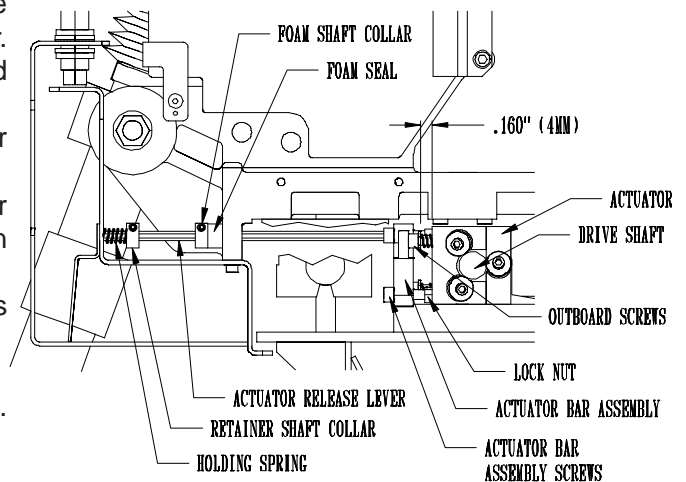
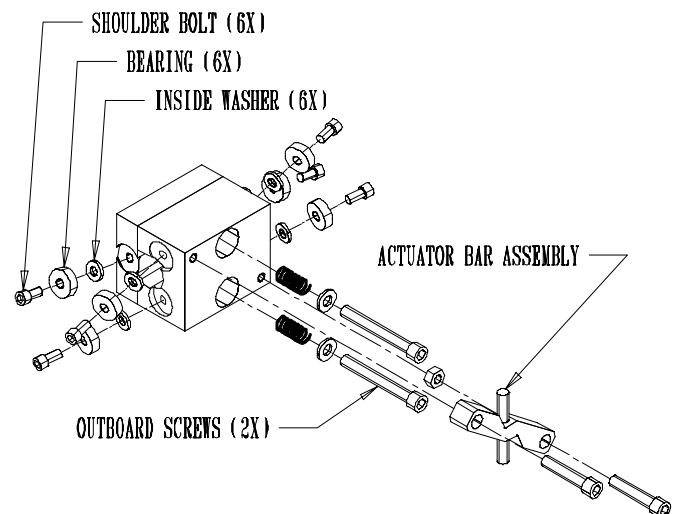

FIG. 12
FIG. 13
STEP 2--Turn the actuator release lever 1/2 turn clockwise to release the actuator from the drive shaft. Slide the actuator release lever out of actuator bar assembly by loosening the retainer shaft collar, which preloads the holding spring. See FIG. 12.
STEP 3--Move the grinding head carriage to the left side. Lift the bellows. Remove shoulder bolts fastening the six bearings to the actuator body. See FIG. 13. Remove the old bearings from the shoulder bolt, and discard, saving the inside washer. Insert the shoulder bolts through the new bearings and the saved inside washers. Then install these assemblies into the actuator body and tighten the shoulder bolts.
STEP 5--Slide actuator release lever with collar, spring washer and foam seal back into actuator bar assembly and lock in place with retainer shaft collar. See FIG.12. Turn actuator release lever 1/2 turn counterclockwise to engage bearings to drive shaft.
STEP 7--If readjustment is required to achieve pull force within specification, with actuator bearings engaged to drive shaft, readjust the two outboard screws with springs that hold the actuator together. See FIG. 13. To reach these screws, the actuator bar assembly must be removed. Turn each screw an equal amount when resetting for more or less tension, clockwise is more tension. Repeat Step 6 and verify pull force. Continue to adjust until within specification. The factory preadjusted spring tension is .160 or 5/32" (4 mm) from under the washer holding the spring to the actuator block. See FIG. 12. This should give the 60 lbs. carriage pull force specified.
When adjustment is correct reinstall the actuator bar assembly. The bar assembly must be adjusted parallel to the actuator aluminum body and so it is just touching the outboard screw heads. Then tighten the lock nut on the lower actuator bar assembly mounting screw. See FIG. 12. Then reinstall the release lever package as above.